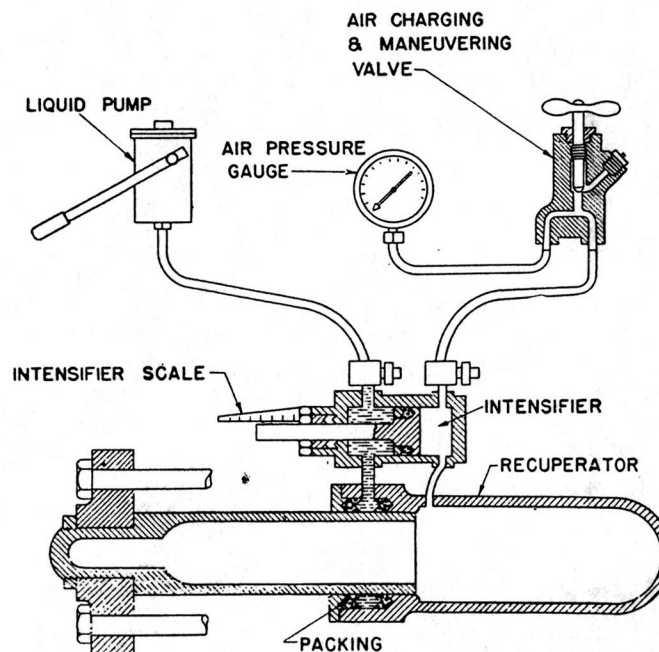

FIGURE 15.—Recuperator system.
d. Recharging recuperator.—(1) Frequent readings of the air pressure gage (fig. 15) must be taken to insure that 1,600 pounds per square inch is maintained in the recuperator at all times. To take a reading to determine the air pressure in the recuperator, very gradually open the needle valve on the air end of the intensifier. Opening quickly may damage the pressure gage. After the reading has been made, close the needle valve.